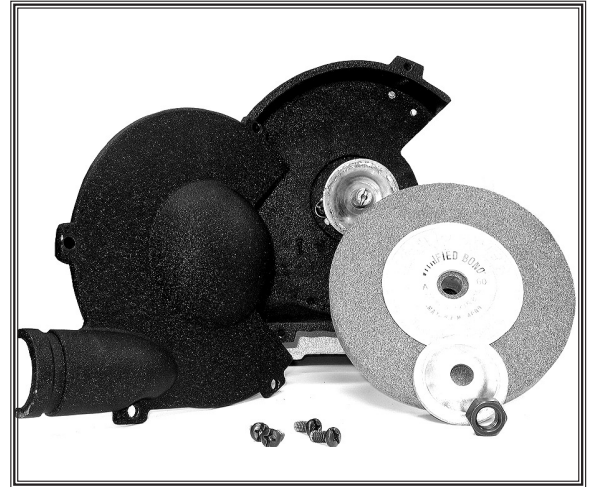

Figure 8. Grinding wheel components.
2. Disassemble grinder to the level shown in Figure 8.
4. Install the new wheel in the order shown in Figure 8 and tighten the arbor nut snugly, but do not over tighten or you will crack the wheel.